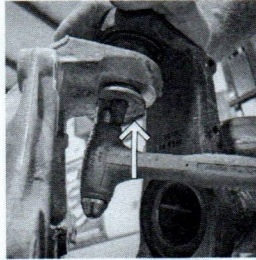
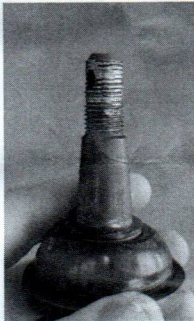

Figure 19. Proper Tapered Bushing Install with Hammer
Figure 20. Damage Resulting from Improper Installation of Tapered Bushing
22. Install the tapered bushing into the knuckle. Carefully tap the bushing into place, being very careful not to damage the ball joint stud threads. See **Figure 19**. Do not use the upper ball joint castle nut to install the tapered bushing! Any damage resulting from improper installation of the tapered bushing is not covered by the product warranty. See **Figure 20**